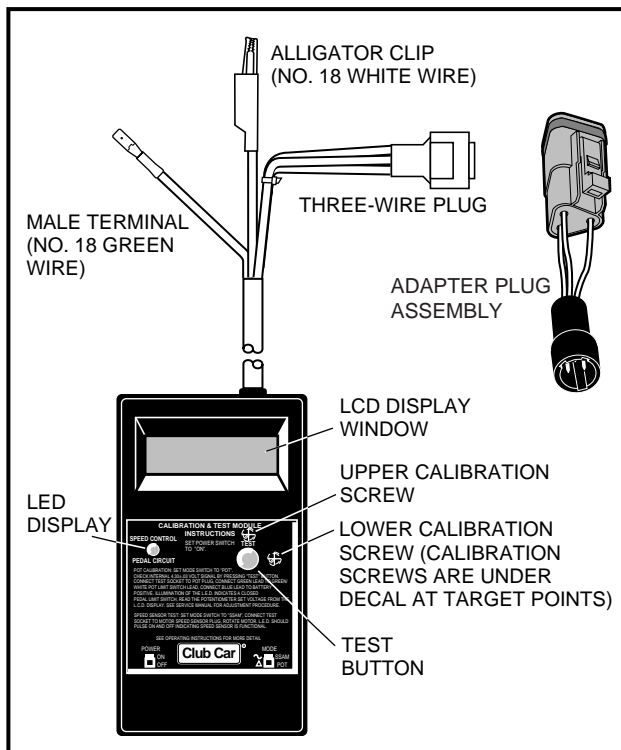

Figure 5-12 Calibration Test Module
- 6.1. Connect Calibration Test Module (CTM) (Club Car Part No. 1018871-01) (Figure 5-12, Page 5-8) to vehicle.
- 6.1.2. Connect the three-pin plug of the CTM to the three-pin connector from the potentiometer (Figure 5-12, Page 5-8) and (Figure 5-13, Page 5-8). See following NOTE.
- 6.1.4. Connect the green/white wire from the potentiometer housing to the green lead from the CTM (Figure 5-12, Page 5-8).